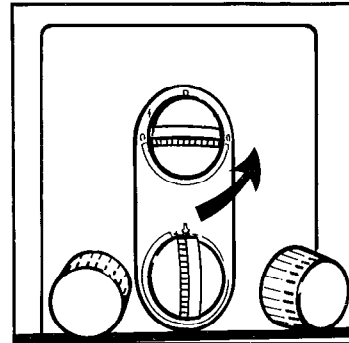

Fig. 2
- When the pilot is alight, wait 10 seconds then turn the gas control knob anti-clockwise slowly to the full gas position  (fig. 2).
Light the pilot as previously described and turn the gas control knob anti-clockwise to the position shown  (fig. 2).